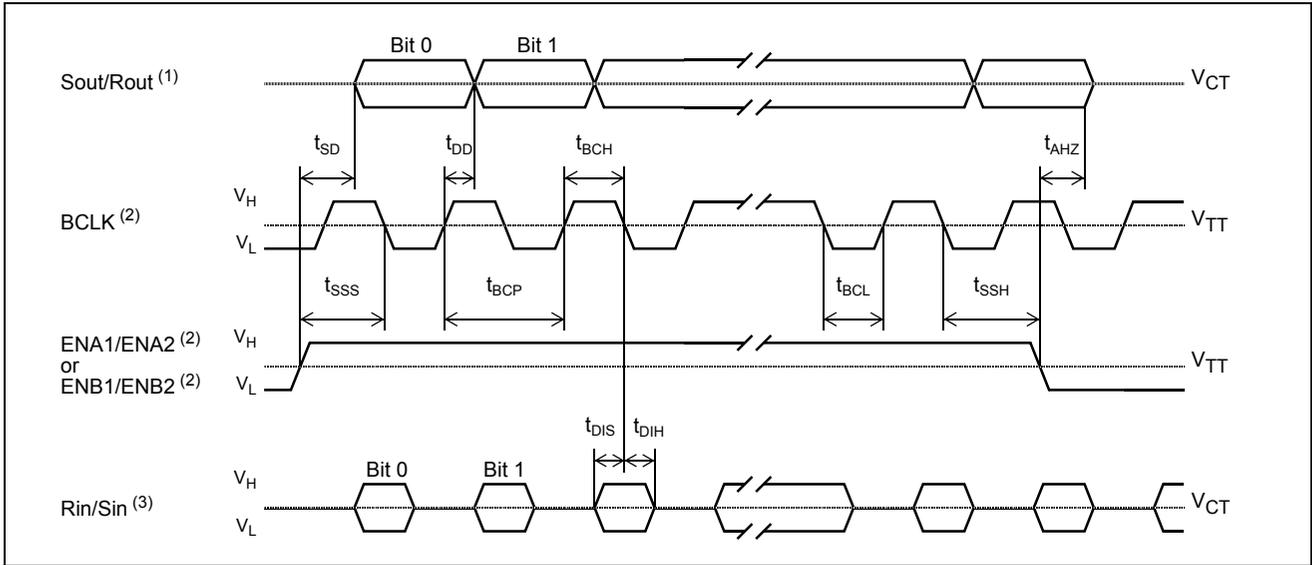

Figure 16 - SSI Data Port Timing
**AC Electrical Characteristics† - Serial Data Interfaces (see Figures 16 and 17)**Voltages are with respect to ground ( $V_{SS}$ ) unless otherwise stated.
**AC Electrical Characteristics† - Microport Timing (see Figure 16)**